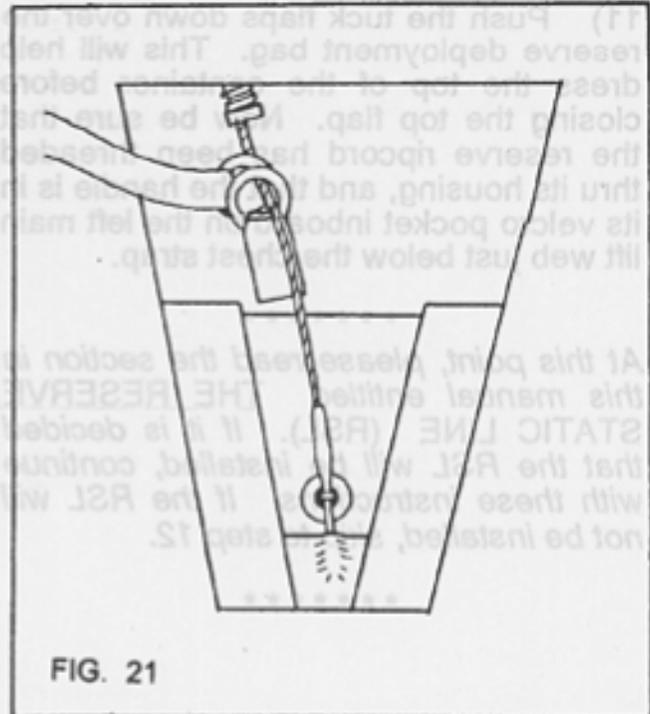

FIG. 21
12) Thread the pullup cord thru the grommet in the reserve top flap, remove the temporary pin, then pull the closing loop up thru the grommet and secure it with the actual ripcord. Insert the end of the ripcord pin into its protective pocket as shown in FIG. 21. Now check to see that there is a minimum of 2" or a maximum of 4" of extra-ripcord cable at the handle. (This helps prevent an accidental activation of the reserve if the wearer bends forward, or if a hard opening stretches the harness.)